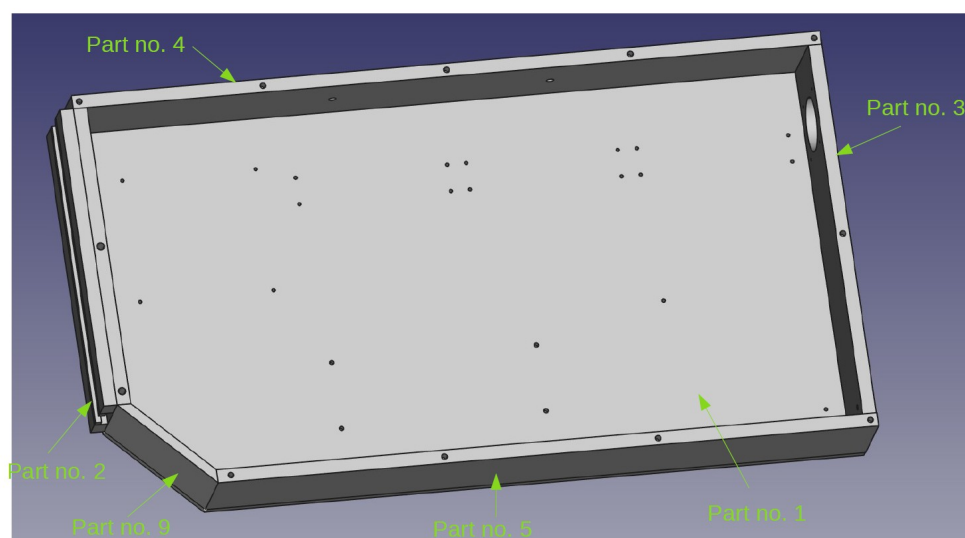

Figure 7 3D CAD view of the baseplate mounted with parts 2-5.
2.1. Glue parts no. 2-5 to the baseplate (part no. 1) as shown in Figure 7 (The threaded holes should be pointing up so that the front cover can be later on screwed to them). Depending on your material you'll need to select an appropriate glue. We have used Acrylic Glas as a casing material and Acrifix as an adhesive. In order to hold the parts in place until the glue dries, screw clamps can help. Make sure to glue the parts accurately, otherwise the holes in the cover might not be overlapping properly and it will be difficult to close the casing.